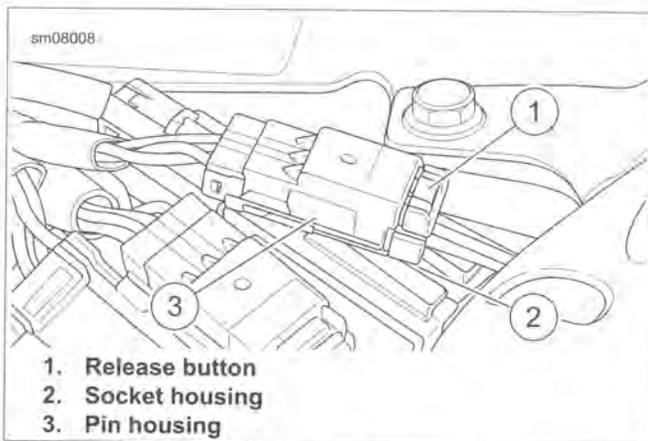

Figure A-59. Tyco 040 Multilock Unsealed Connector
See Figure A-59. To maintain serviceability, always return connectors to OE locations after service.
1. See Figure A-59. Press the release button (1) on the socket terminal side of the connector.
2. Pull the socket housing (2) out of the pin housing (3).